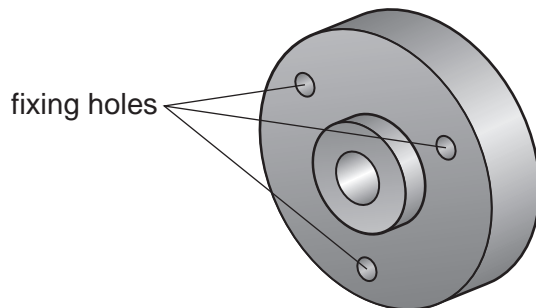

Fig. 12
- (f) Fig. 12 shows the wall mount for the towel rail.